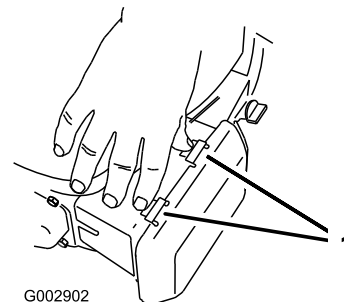

Figure 32
1. Press down on the latch tabs on top of the air cleaner cover (Figure 32).